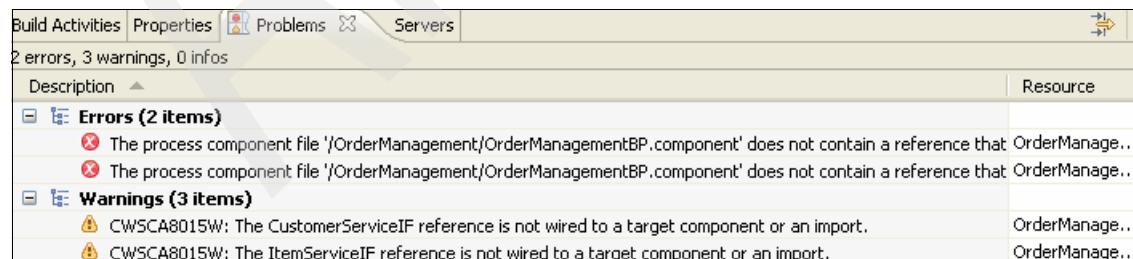

Figure 3-75 Errors in Problems View after adding rules to business process
21.Save the business process. A couple of errors displays on the Problems view, as shown in Figure 3-75.